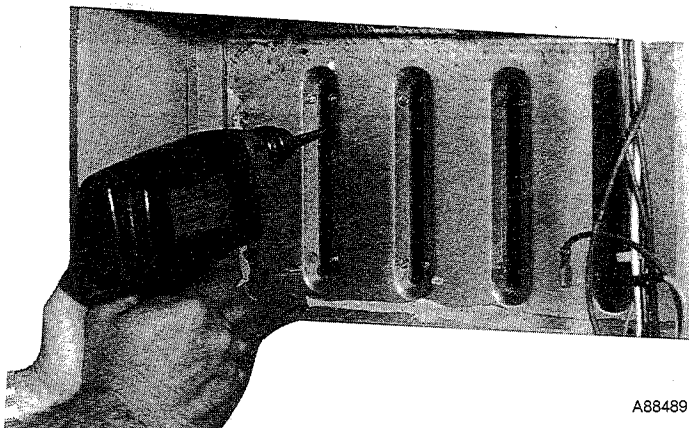

Fig. 8—Cleaning Heat Exchanger Cell
- (2.) Insert brush end of cable into upper opening of cell and slowly rotate with drill. *Do not force cable.* Gradually insert at least 3 feet of cable into two upper passes of cell. See Fig. 8.